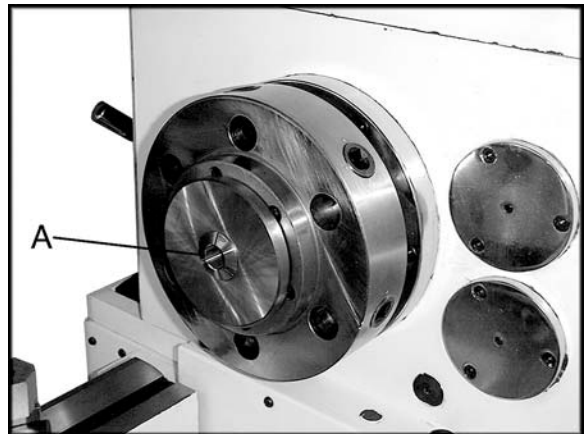

Figure 4
10. Screw the collet closer into collet by releasing collet closer assembly lock and turning collet closer outer flange clockwise. **Note:** It is necessary to push collet in while turning closer body to engage draw bar with the collet. Continue turning until collet taper is seated, but not tensioned, in the taper (Figure 4).